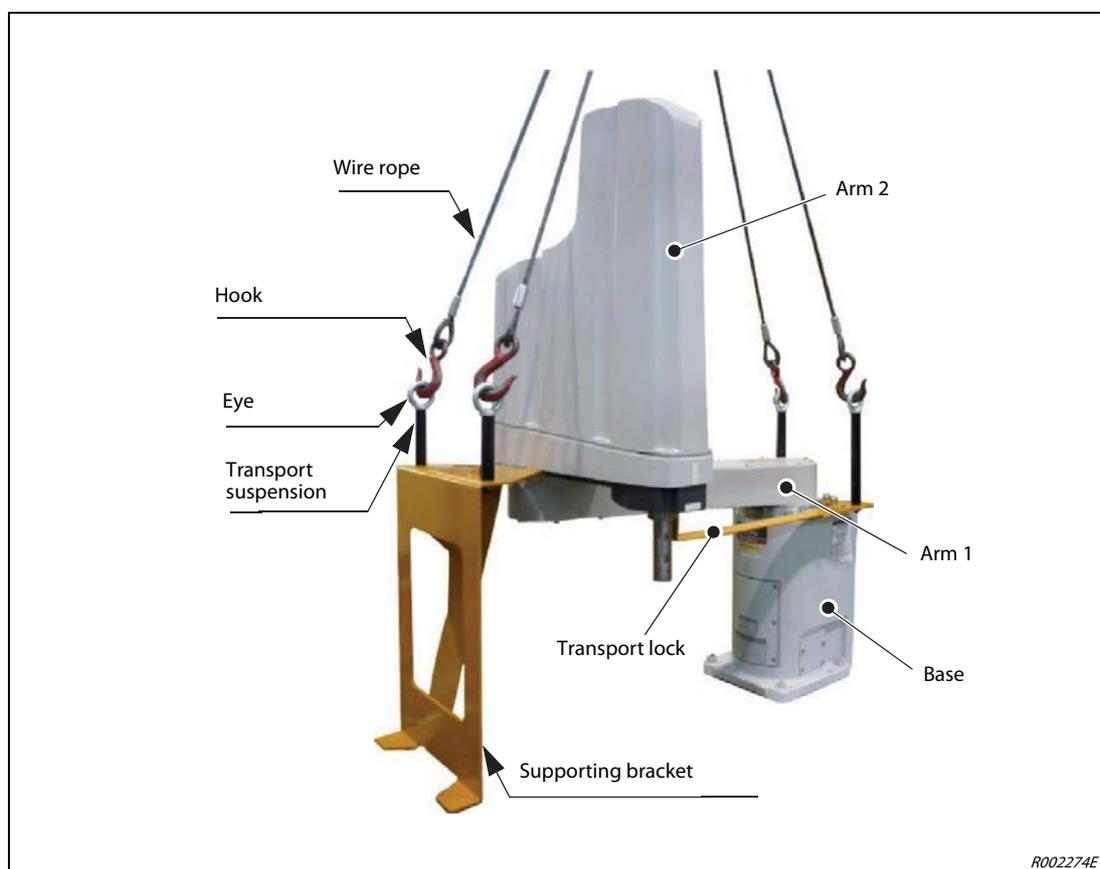

Fig. 3-7: Fix the transport suspensions
- **To avoid faults, the wire rope of the crane must be attached as shown in Fig. 3-7.**